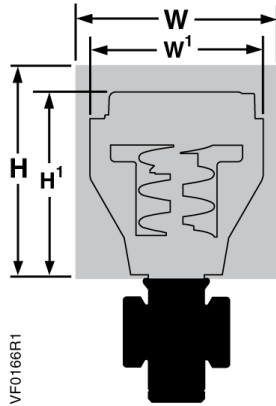

Figure 5.
- Allow sufficient space for servicing the valve and actuator. See Table 8 for valve body dimensions. See Figure 5 and Table 7 for dimensions of the service envelope recommended around the actuator.